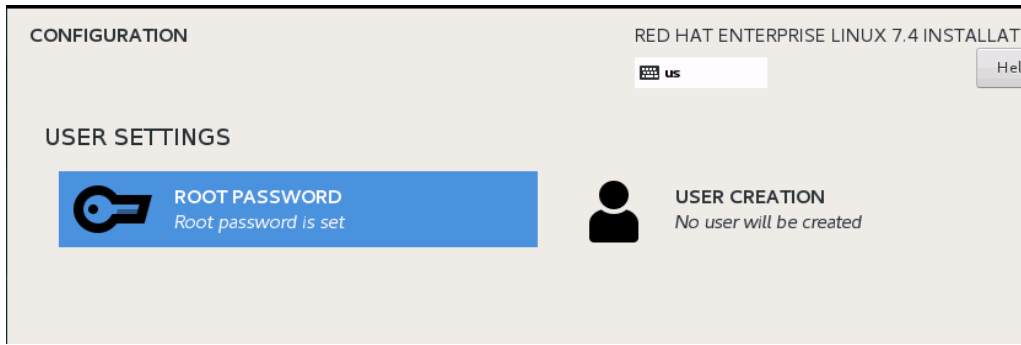

Figure 9-25. Red Hat Enterprise Linux 7.4 Configuration
7. In the Configuration window (Figure 9-25), select the language to use during the installation process, and then click **Continue**.